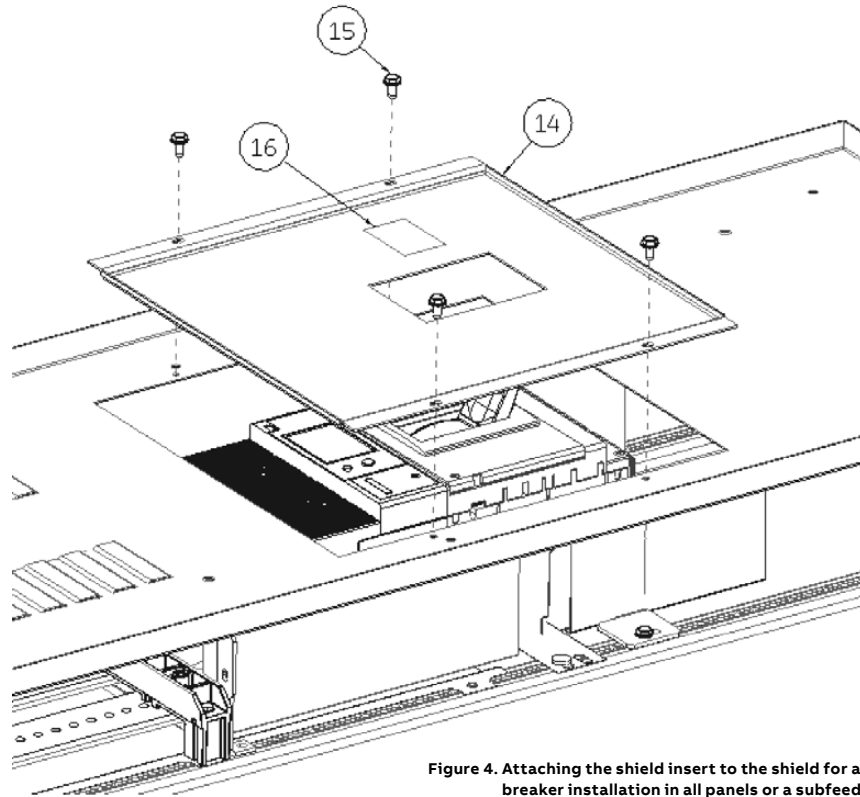

Figure 4. Attaching the shield insert to the shield for a main breaker installation in all panels or a subfeed breaker in 400A panels
- a. If this is a main breaker installation, place the shield insert [14] over the shield so that the four same-size holes line up with the threaded holes in the shield, as illustrated in Figure 4. Fasten the shield insert to the shield with four #10-32 x 3/8 screws [15] tightened to 27–36 in-lb. Attach the MAIN label [16] to the front of the shield insert, as shown in Figure 2.
- b. If this is a subfeed breaker installation, place the new shield insert [14] supplied with the kit over the shield so that the four same-size holes line up with the threaded holes in the shield, as illustrated in Figure 4. Fasten the shield insert to the shield with four #10-32 x 3/8 screws [15] tightened to 27–36 in-lb.